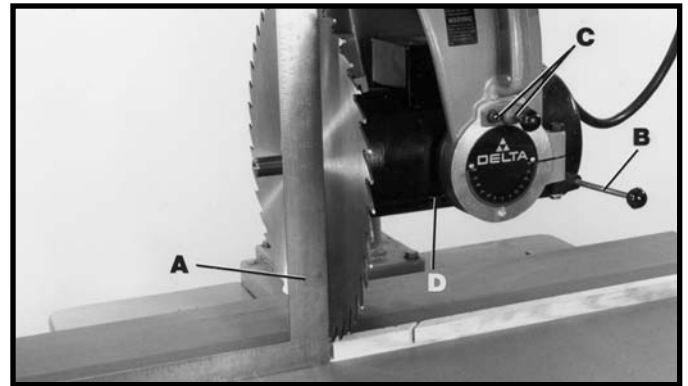

Fig. 36
3. Place a square (A) Fig. 36, against saw blade. Be sure square is on the table surface, and between the gullets of the teeth, not against the saw teeth.
4. Loosen bevel clamp handle (B) Fig. 36, and loosen two screws (C).
5. Tilt the motor assembly (D) Fig. 36, until square is flush against saw blade and tighten bevel clamp handle (B) Fig. 36, to hold position. Then tighten two screws (C).